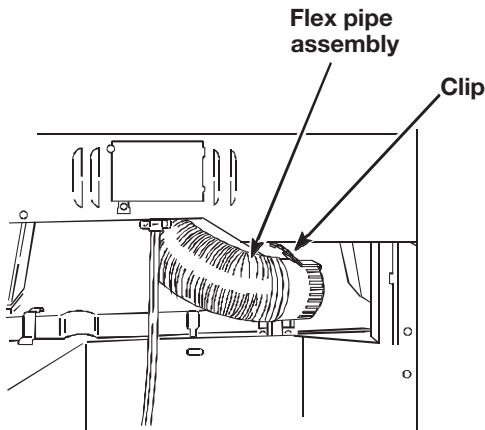

Figure 4
5. Preform flex pipe left or right. See Figure 4.